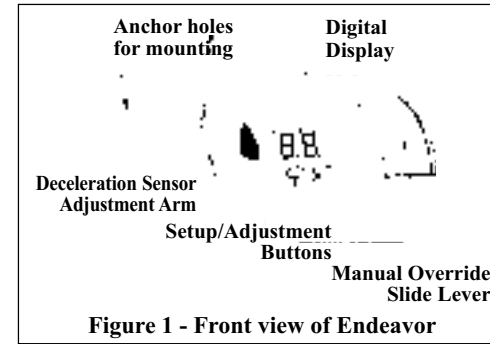

Figure 1 - Front view of Endeavor
- The “**Manual Slide Lever**” (Figure 1) is located on the front right side of the controller.